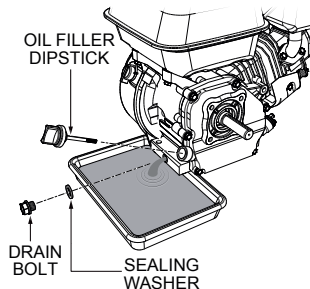

Figure 28. Engine Oil (Draining)
1. Drain the engine oil when the oil is **warm** as shown in Figure 28.